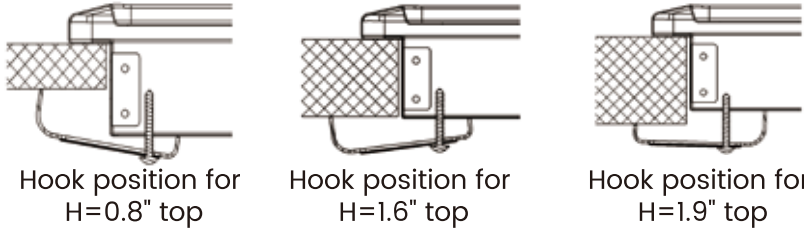

Fig.11
f. Fixing fittings(hooks, screws) are provided to place the cooktop on worktop, the worktop measure 0.8" to 1.9" in thickness(Fig.11).